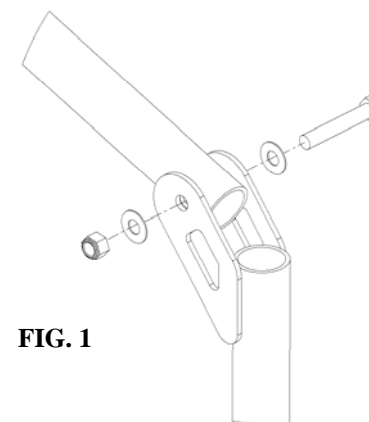

FIG. 1
2. Connect the boom to the mast with the 1/2"x3" hex head bolt, 2-washers, and the 1/2" nylon locking nut. **FIG. 1**